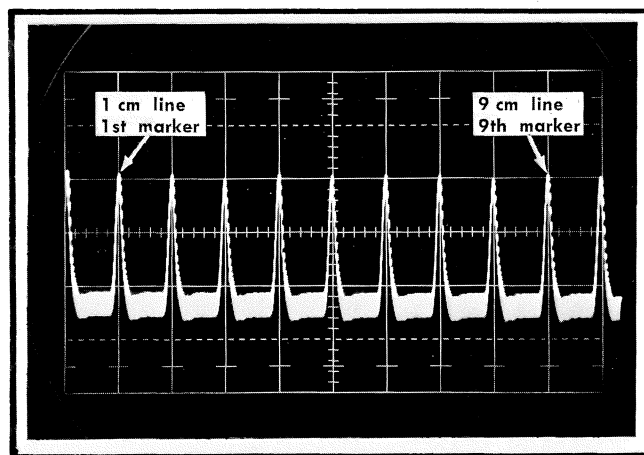
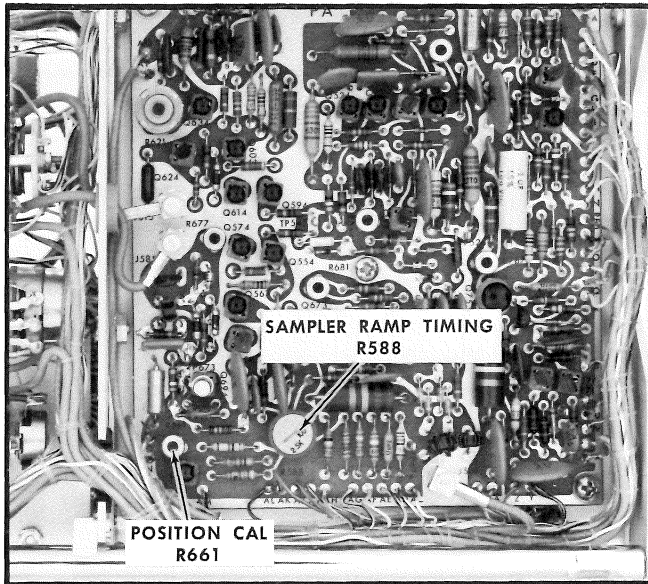

Fig. 7-19. Typical CRT display of time marks for adjusting timing.
Fig. 7-20. Location of SAMPLER RAMP TIMING control, R588, and POSITION CAL, R661, on Horizontal circuit board.
- l. Adjust SAMPLER RAMP TIMING, R588 shown in Fig. 7-20, for 1 marker/division on the graticule, check timing over the center 8 divisions. See Fig. 7-19.